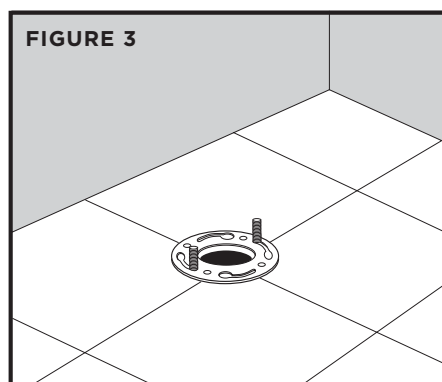

FIGURE 3
3. Install new floor bolts into floor flange using plastic retaining washers to secure bolts. Adjust the floor bolts to ensure they are parallel to the wall (FIGURE 3).